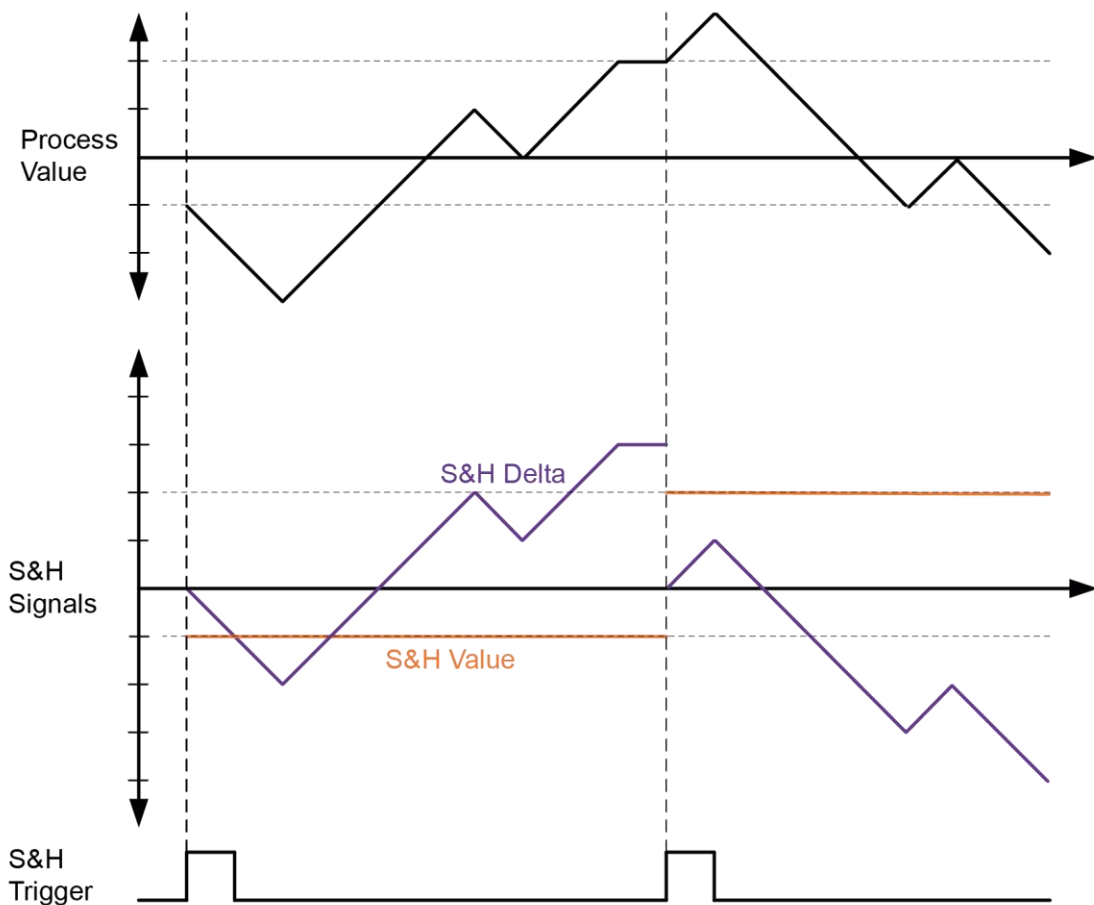

Figure 4: Sample and Hold
- The process value that was held during the last sample and hold trigger (cf. fig. 4: S&H Value). The measured value (process value) at the trigger time is held.
- The difference between the process value held during the last sample and hold trigger and the current process value (cf. fig. 4: S&H Delta. $S\&H\ Delta = S\&H\ Value - Process\ Value$).